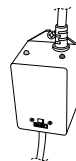

FIGURE 8
- Once power is activated you can check the ballast (12), Figure 8, to see if the CLEARRAY unit is functioning; it has two LED indicator lights the green indicating incoming power flow and the red indicating the system is properly working.